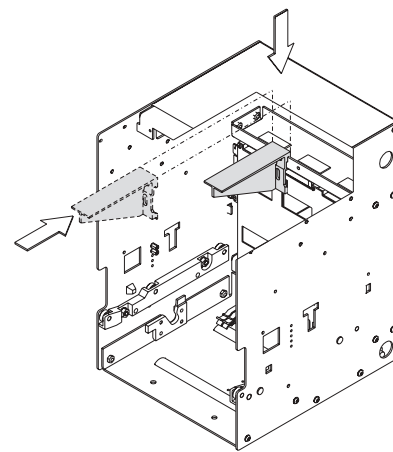

Fig. 15
6.2.1 Accessory for shutter padlock (Fig. 15)